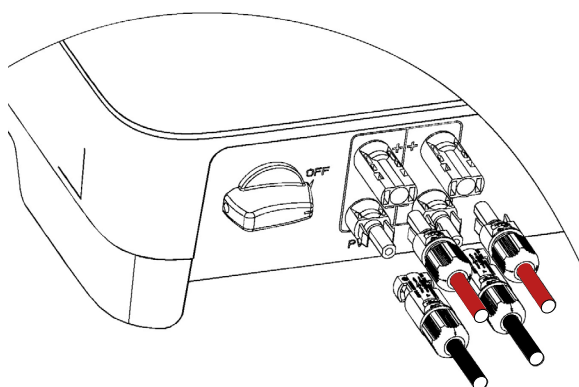

Fig. 44. Connecting the DC input terminals of units with 2 MPPTs.
4. Insert the positive and negative connectors into the respective DC input terminals of the inverter. If the terminals are properly connected, they will make a clicking sound, as shown in Fig. 44: